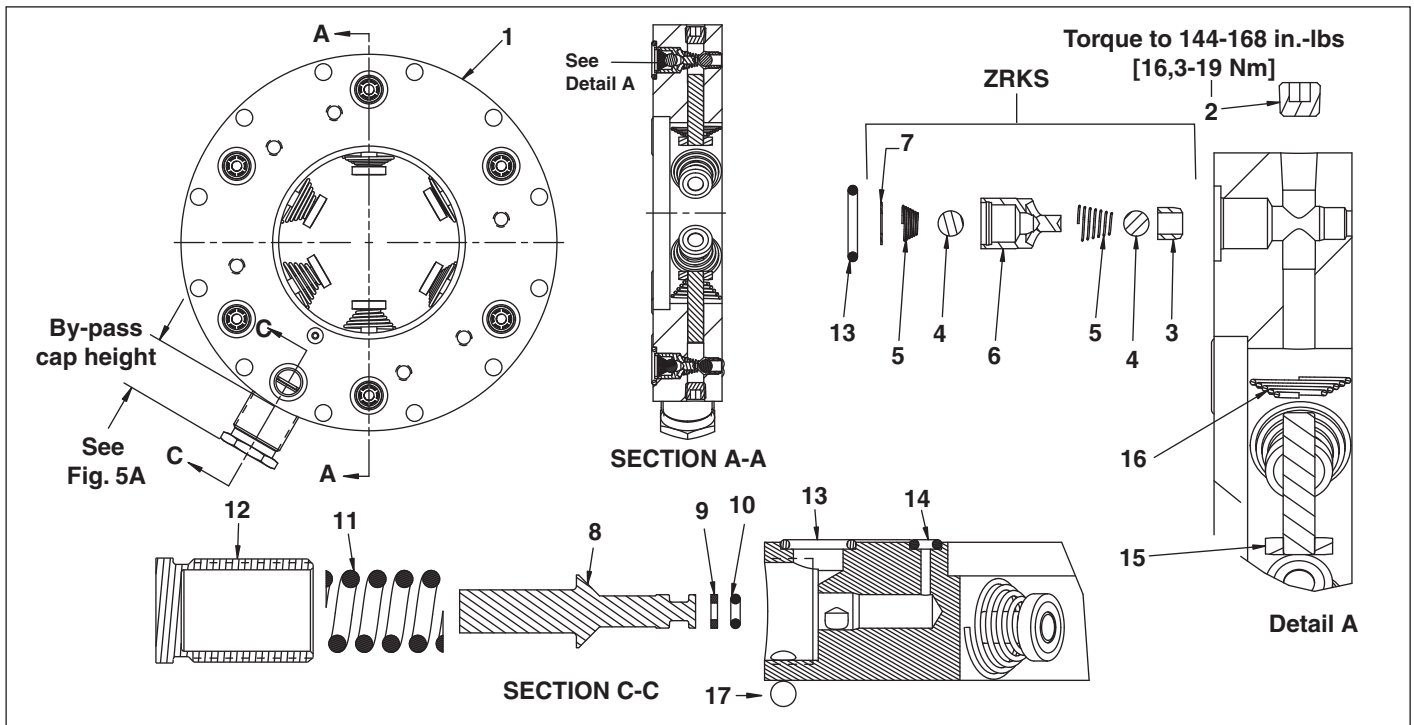

Figure 4, Piston Ring Assembly (6 Piston Shown)
Repair Parts List for Figure 4 (Note: part quantities will vary - quantities for 6 piston shown)
- ◆ Use bypass end cap DC9208020 (Figure 4, Item 12).
- * Use bypass end cap DC8373020 (Figure 4, Item 12).
- ▲ Use bypass end cap DC8374020 (Figure 4, Item 12).